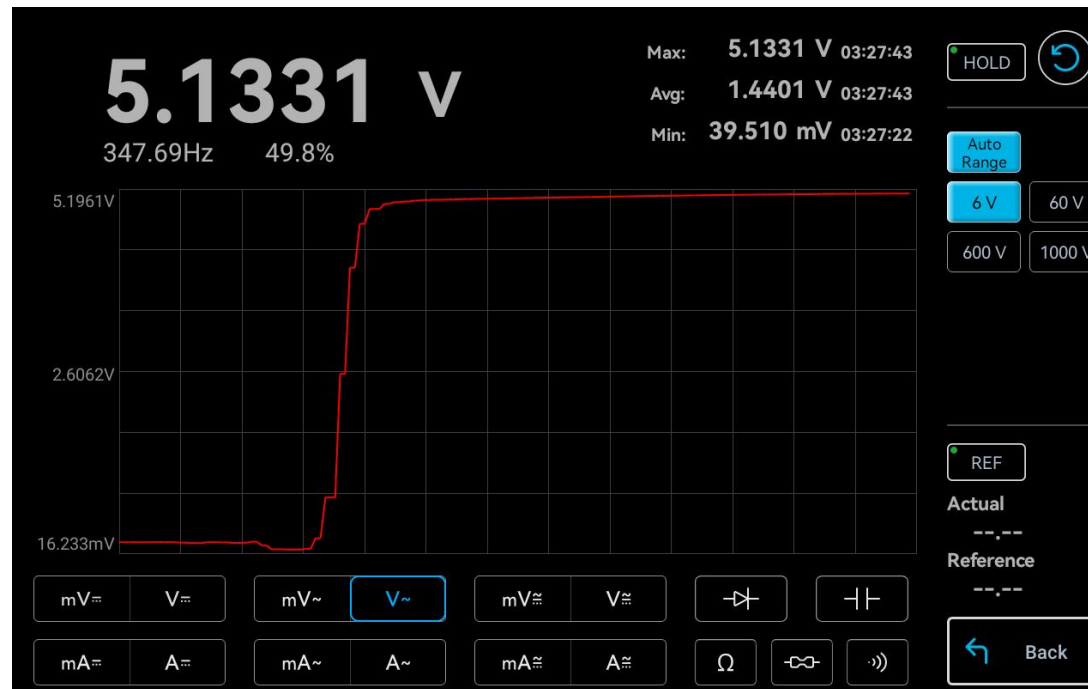

Figure 8-4 AC Voltage Measurement (V)
Test Steps: Select to enable the AC voltage measurement (V) in the measurement item selection area **V~**, as shown in Figure 8-4.